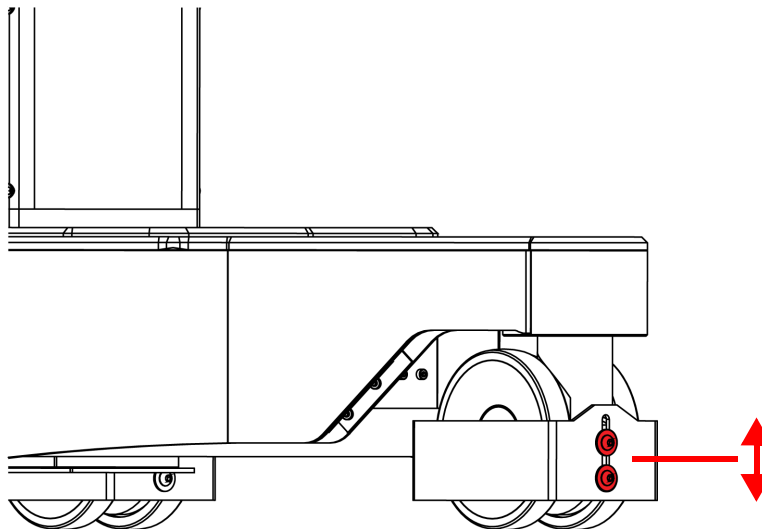

Figure 1 Adjusting the height of the cable guards
1. Use a 3/32" hex key to loosen the screws that fasten cable guards to the wheel unit. Each cable guard has two screws. Loosen the screws just enough to allow the cable guard to move (see **Figure 1**).